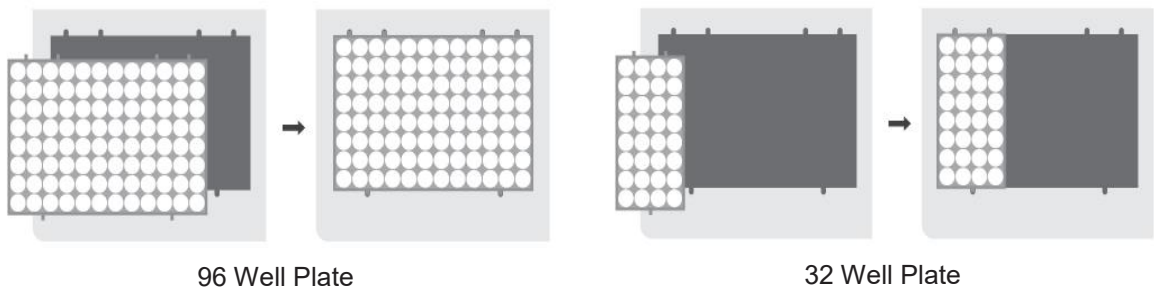

Figure 8: Positioning of the 96 or 32 well plate on the plate loader
- Place the extraction plate on the plate loader. Note that the plastic cavities needs to fit in their position (Figure 8).